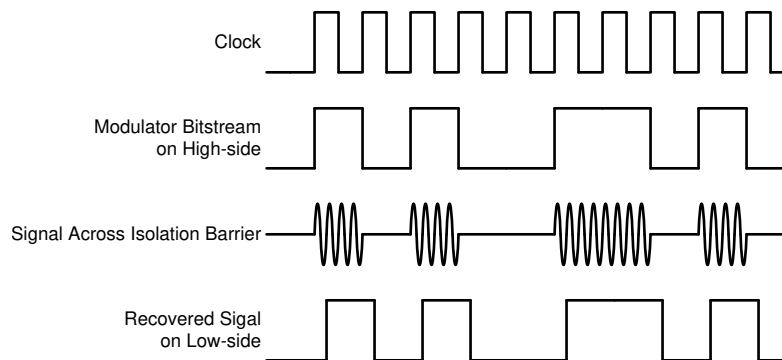

Figure 7-3. OOK-Based Modulation Scheme
The AMC3306M25 uses an on-off keying (OOK) modulation scheme, as shown in Figure 7-3, to transmit the modulator output bitstream across the SiO2-based isolation barrier. The transmit driver (TX) illustrated in the *Functional Block Diagram* transmits an internally generated, high-frequency carrier across the isolation barrier to represent a digital *one* and does not send a signal to represent a digital *zero*. The nominal frequency of the carrier used inside the AMC3306M25 is 480 MHz.
Figure 7-3 shows the concept of the on-off keying scheme.